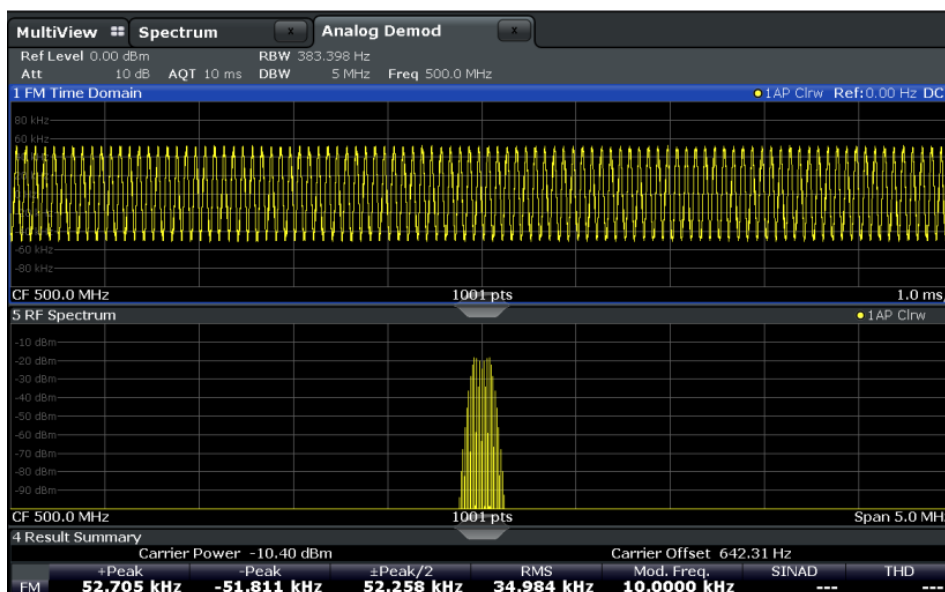

Figure 8-4: RF spectrum of FM signal with default demodulation bandwidth = 5 MHz
- As you can see in Figure 8-4, the default demodulation bandwidth of 5 MHz is much too large - the actual signal takes up only a small part of the displayed range. That means that any noise or additional signals apart from the FM signal of interest may be included in the measured results. Select the "Demod BW" softkey and reduce the value to 200 kHz.